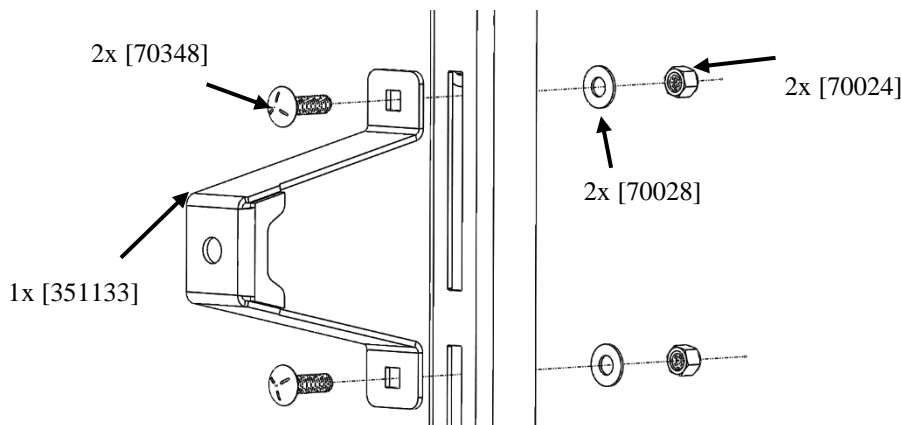

Figure 1: Mounting Tire Bracket
1. Loosely fasten the Tire Mount Bracket to the slotted channel, going through the bracket first, using the 3/8" carriage head bolts, washer, and nuts to mount. Reference Figure 1.